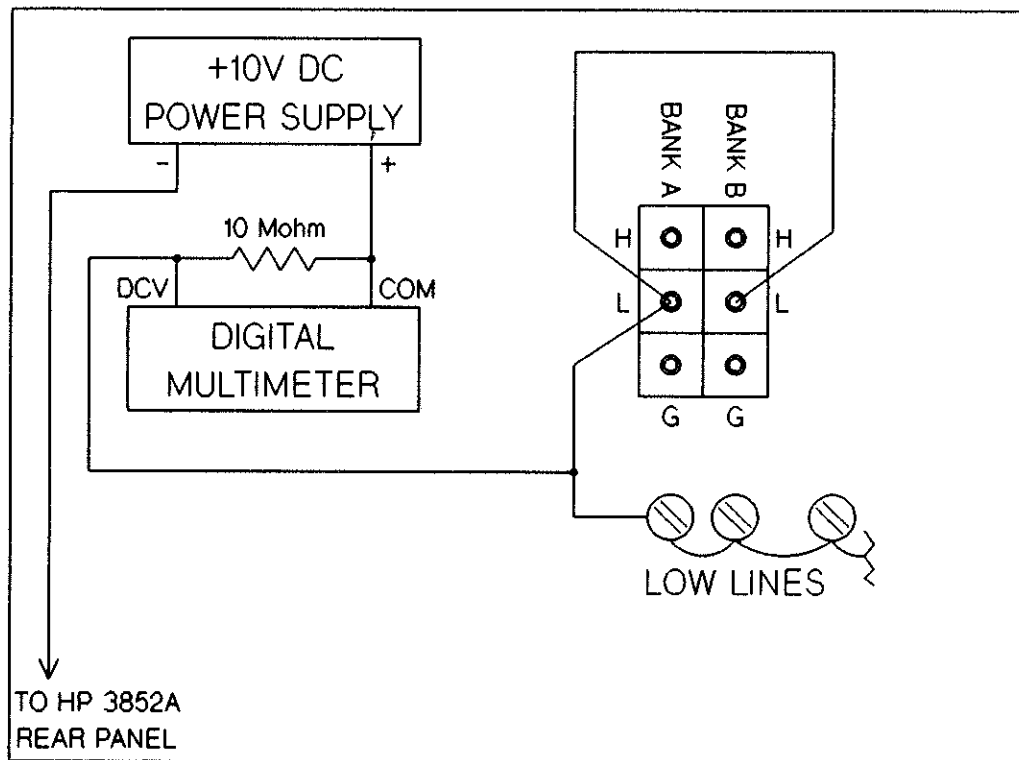

Figure 9-23 HP 44709A/44710A Closed LOW Channel Test Set-Up
32. Refer to Figure 9-23. On the test fixture, connect the shorted LOW lines to the Bank A common LOW test point. Short the Bank A and Bank B LOW common test points together.
36. Calculate the leakage current (I) from the formula: